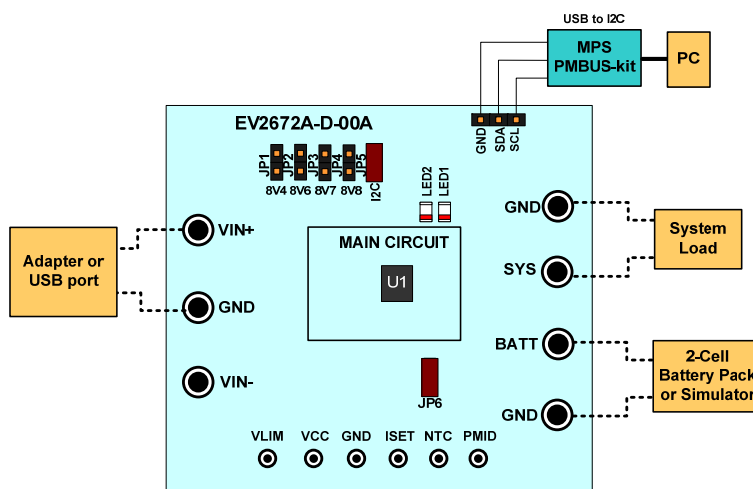

Figure 2: Test Set-Up for the MP2672A in Host-Control Mode
Figure 2 shows the set-up for host-control mode. For this mode, connect the CV pin to the VCC pin. The battery-full voltage and charge current are set by the I²C register.
- 4) Configure the test set-up for the MP2672A (see Figure 2).